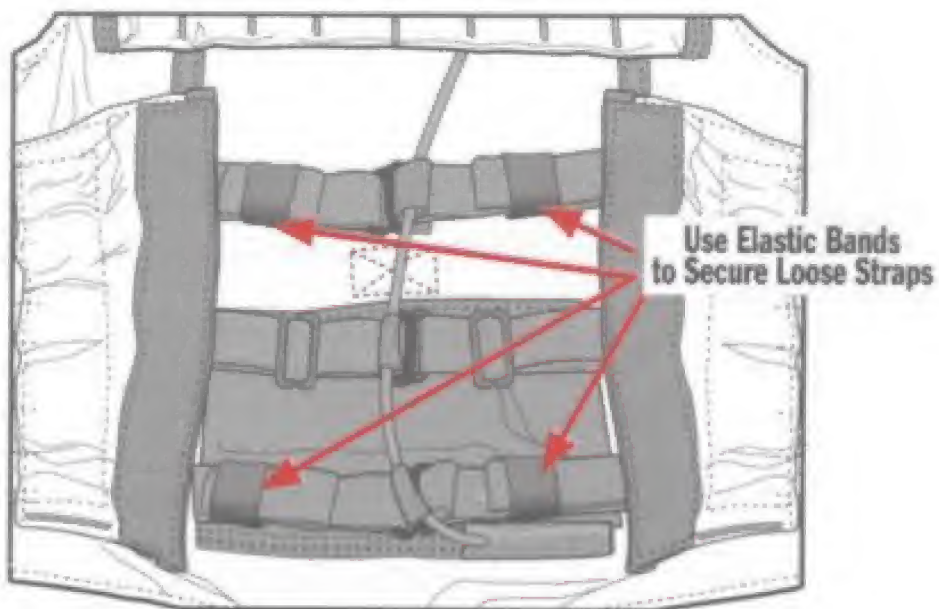

Fig. 29. Insertion of Release Cable.
3. Gather any loose straps and secure using elastic keepers as shown in Fig. 29. The Back Pocket is now prepared to close.